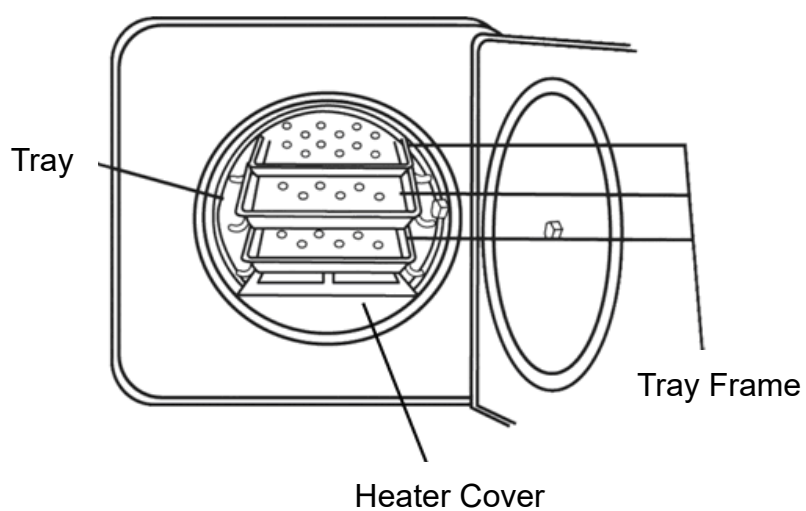

Figure 32 – Tray
C. Install the tray as shown in Figure 32. (standard accessory)